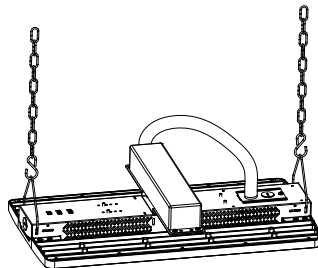

Figure 15
Step2. Assemble the emergency power supply to the bracket, and then connect according to the wiring mode(Figure 15).